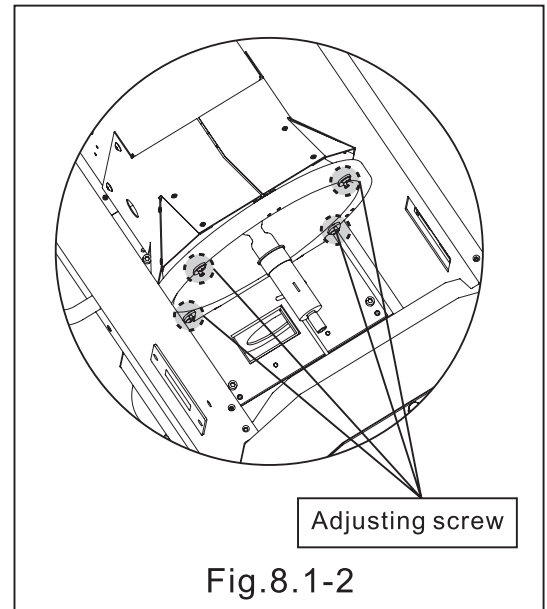

Fig.8.1-2
2. Adjust the adjusting screws for the reflector, as shown in Fig.8.1-2, until the axis of the reflector is coaxial with that of the optical system. And then close the rear door, turn on the power switch and press down Start button, repeat the above steps 1-7 and complete the focus adjustment.